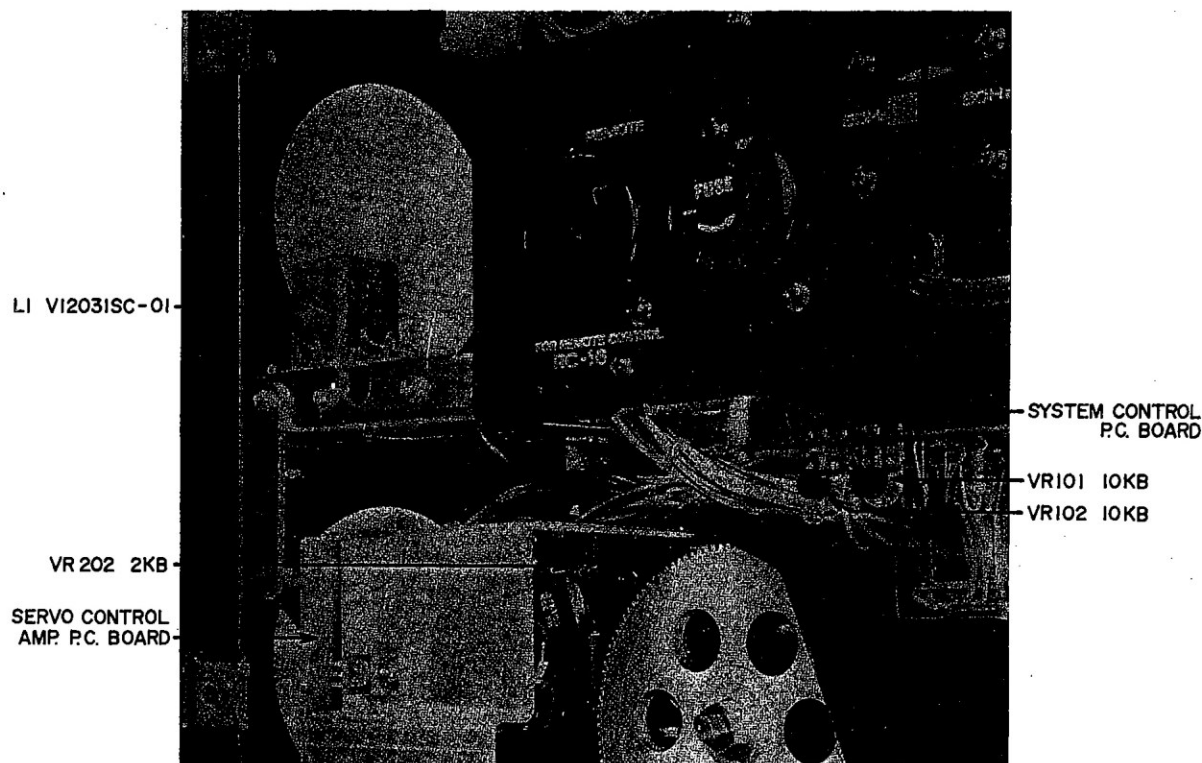

Fig. 8
- 3) Adjust the core of coil L1 (VI023SC-01) shown in Fig. 8 to obtain a frequency counter indication of 500 Hz $\pm 1\%$.
- 4) After the 3-3/4 ips (9.5 cm/sec.) tape speed adjustment has been completed, depress the 7-1/2 ips (19 cm/sec.) Tape Speed Selector Switch and adjust Servo Control P.C. Board semi-fixed resistor VR202 (2 k Ω) shown in Fig. 8 to obtain a frequency counter indication of 1,000 Hz $\pm 1/-0.5\%$.
Adjust System Control P.C. Board semi-fixed resistor VR101 (30 k Ω) shown in Fig. 8 so that when the machine is switched from FWD to REV mode or from REV to FWD mode, the pinch wheel separates from the capstan in about 3 seconds.
- 2) Adjust System Control P.C. Board semi-fixed resistor VR102 (10 k Ω) shown in Fig. 8 so that when the machine is switched from F.FWD or RWD to FWD or REV mode, the time constant is about 1.5 seconds.